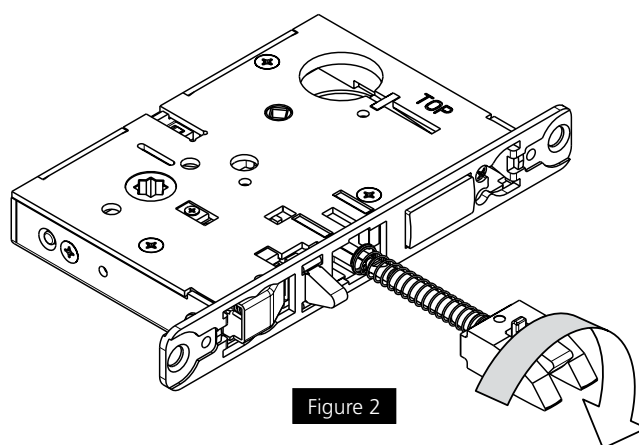

Figure 2
3. Pull latch out of lock-body and rotate 180 degrees (Figure 2)